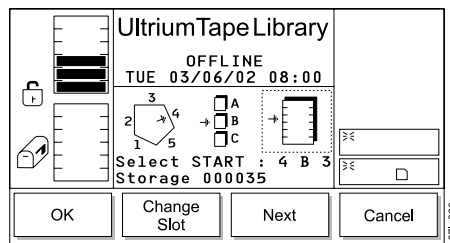

Figure 154. Change Slot Dialog
- b. Press the button below the **Change Magazine** softkey until the arrow in the middle icon points to the magazine that you want. Press the button below the **Next** softkey. The Change Slot Dialog displays (see Figure 154).